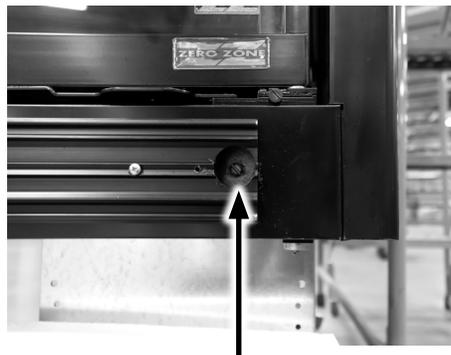

FIGURE 2: Center Locking Screw
2. Loosen the center locking screw (**FIGURE 2**) by 2 turns, accessed through the hole in the bumper support plate. This will allow the bottom mounting plate to shift. **Do not remove the center locking screw.**